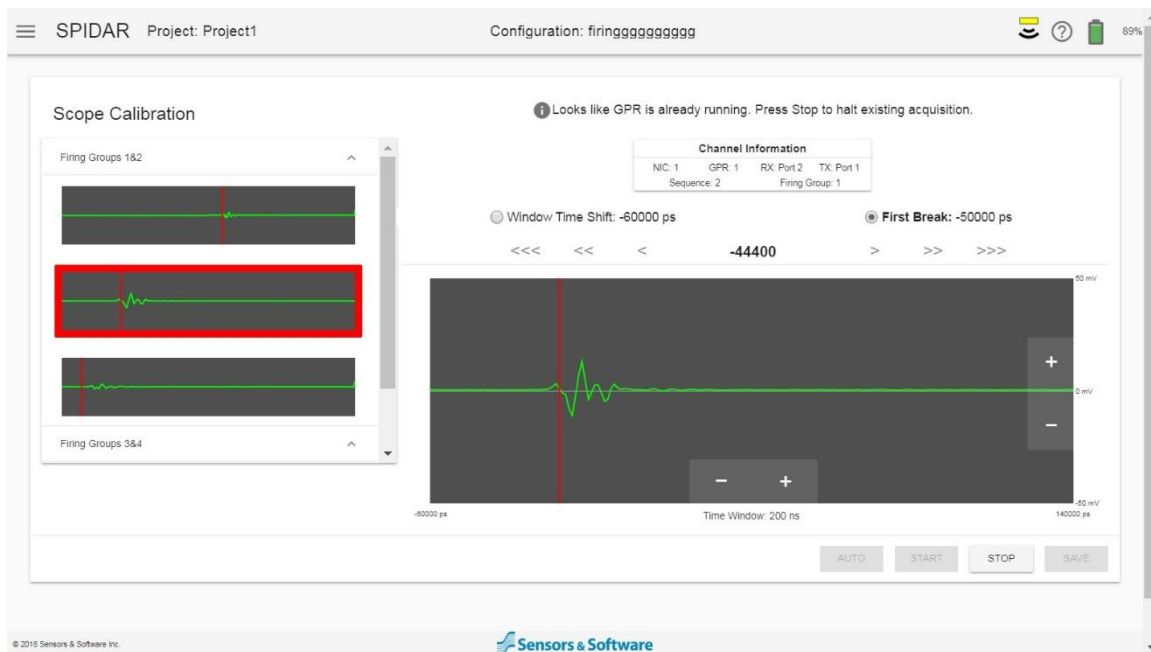

Figure 4-32: Setting First Break using Auto
7. Select the First Break radio button and use the arrows to align the red vertical line with the start of the waveform (Figure 4-32).
Next, select the First Break option below the Channel Information box. Selecting the left and right arrow buttons will move the red vertical line correspondingly. Position the start of the waveform to line up with the red vertical line, near the 10% mark shown on the screen. The correct placement of the waveform is shown in Figure 4-32.